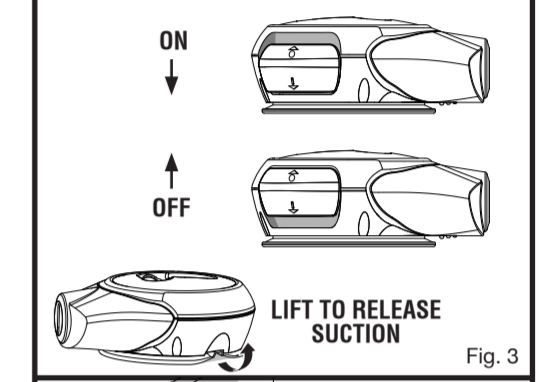

Fig. 3
See Figure 3.
- See Figures 3 - 4.